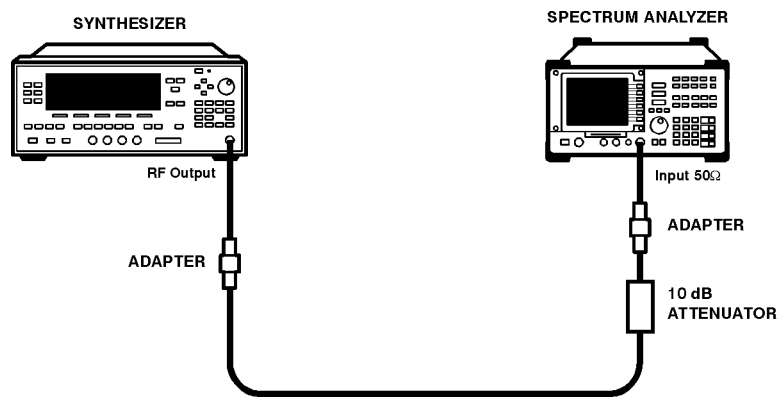
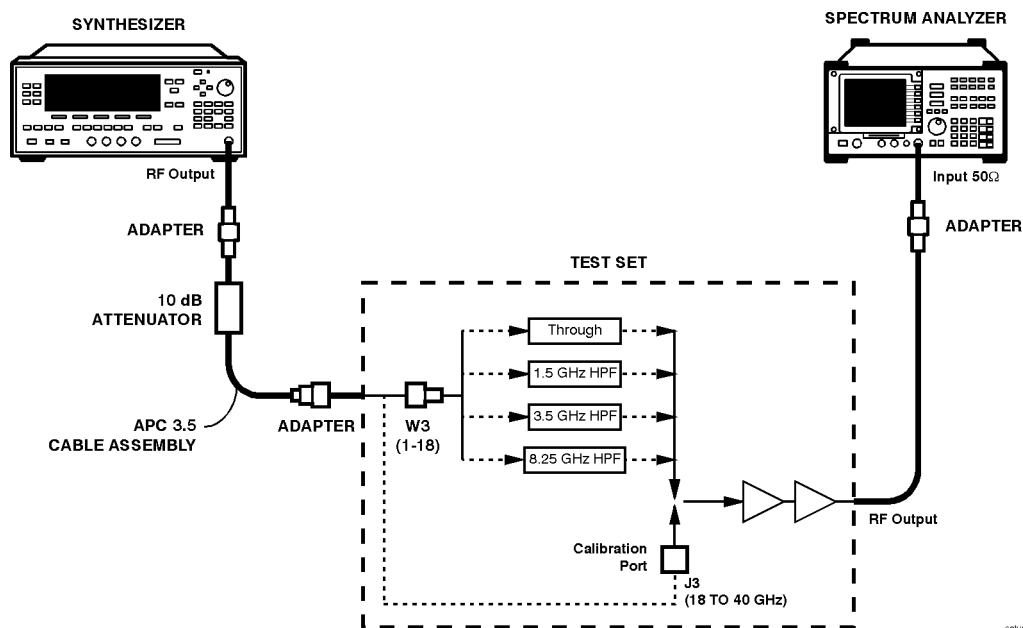

Figure 3-5. Reference Point Setup
Figure 3-6. System Gain Verification
The correction factors for the test set and antenna are deactivated in the spectrum analyzer. The output of the synthesized sweeper is fed through a 10 dB attenuator directly into the input of the spectrum analyzer, bypassing the test set (see Figure 3-5). The synthesized sweeper power level is adjusted for a -65 dBm signal of the spectrum analyzer display. The power level is then recorded.
The test set is then connected to the input of the spectrum analyzer with the correction factors turned off. The spectrum analyzer reference level must be changed to account for the gain of the amplifiers in the test set. The output of the synthesized sweeper is fed through a 10 dB attenuator directly into the test set (see Figure 3-6). The displayed amplitude on the spectrum analyzer is recorded. The difference between the recorded value and -65 dBm is the gain of the test set. The resultant gain value is recorded and compared to the actual test set gain value.
The gain of the test set is measured over defined frequency ranges with the test set configured with the appropriate cables and filter. The following table summarizes those hardware configurations. See Figure 3-5 and Figure 3-6 for hardware locations.
3. Connect the synthesized sweeper to the input of the spectrum analyzer using the cable and 10 dB fixed attenuator. Refer to Figure 3-5.
11. Connect the test set RF output cable to the spectrum analyzer RF input using the 2.4 (f) to (f) adapter. Refer to Figure 3-6.
- b. Select one of the six available configurations (see Configuration Band in Table 3-5) and ensure that the appropriate hardware is correct for the selected configuration. Refer to Figure 3-6.